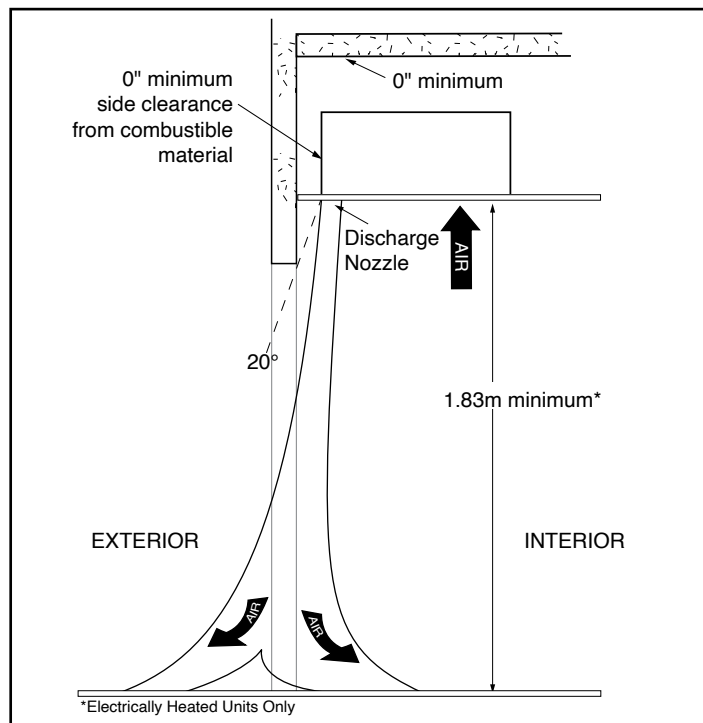

Figure 2 - General Mounting
- A. When determining the mounting location for the unit(s), make sure that nothing interferes with the curtain of air developed when the discharge vanes are directed from 0° to 20° toward the door opening. If the air stream strikes any obstruction (the top edge of the doorway, a door opening device, etc.), the effectiveness of the unit will be greatly reduced. **See Figure 2.**